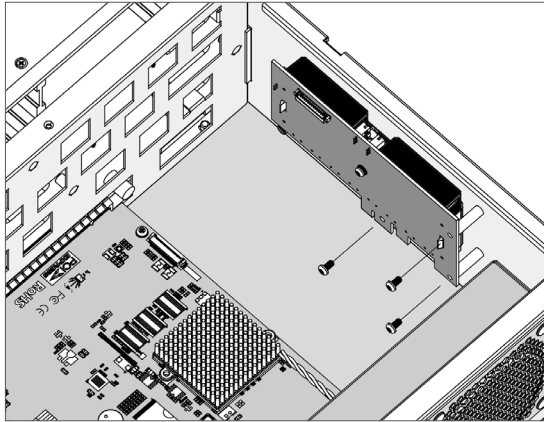

Figure B-10, Secure the Battery Module
2. After removing the cover, then secure the battery pack module (ARC-1883-BAT/CAP, reference NO.1 and NO.2 in Figure B-5) on the right side within the enclosure (for ARC-8050T3-16R/24R), as shown in Figure B-10.